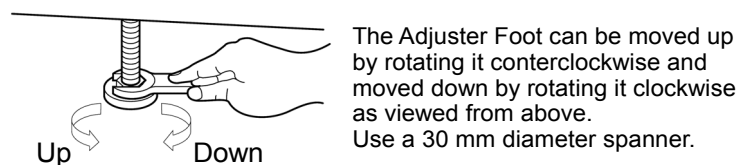

Figure 2-1 How to Use the Adjuster Foot
- Do not install this product on a sloped surface. The Adjuster Foot is only for temporary fixing, and cannot support the unit's own weight. You also must not lean on this product or use it as a support. How to use the Adjuster Foot is shown in Figure 2-1.
- Move the Adjuster Foot up enough from the floor by using a spanner (30 mm diameter). You can move the Adjuster Foot up by rotating it counterclockwise as viewed from above (Figure 2-1).